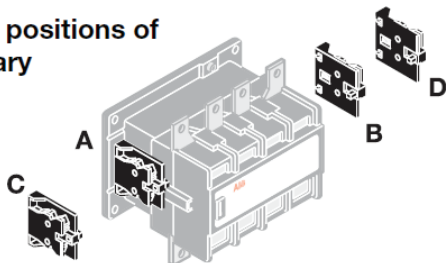

Fig. 1
A maximum of 3 blocks can be mounted on the contactor beyond the one mounted as standard. Technially, all blocks are identical, which means that the same block can be used in all three positions. If the demand for correct position marking has to be met, order block B, C etc. mounted as shown in the figure 1.
- Press out the moving contacts, see Fig. 1.